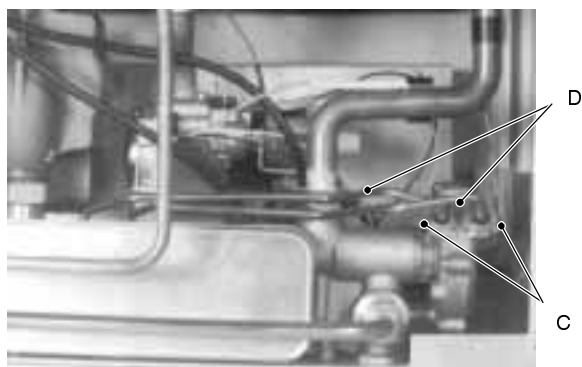

fig. 26
- 2 Remove the forks C and move away the pipes D. (fig. 26 – rear view of the boiler).